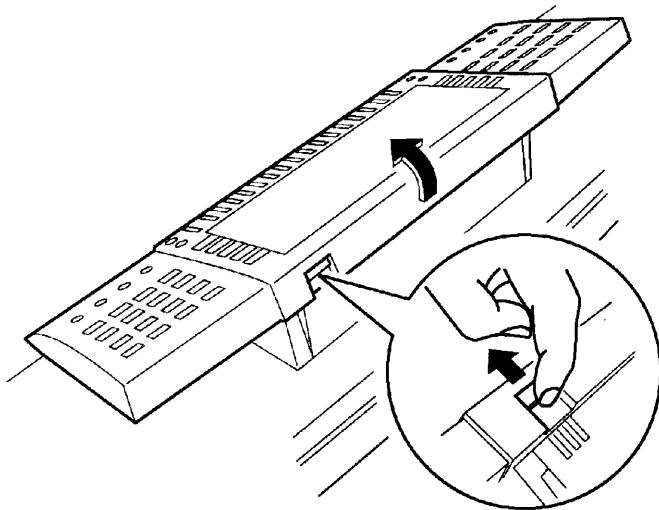

Figure-6
- Pull the Display Angle Lever upward and swivel the display as shown in Figure-6. Then you can keep the top cabinet upright using the display as a stand.